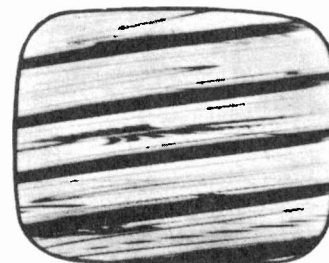

Figure 13. Picture Out of Horizontal Sync.
- Set the **Horizontal** control (A) fully counterclockwise to break sync. If the picture does not go out of sync, momentarily interrupt the channel selector, or adjust the **Horizontal Frequency** (B) until several bars appear sloping downward to the left (see figure 13), then adjust the **Horizontal Frequency** (B) until the picture falls back into sync.